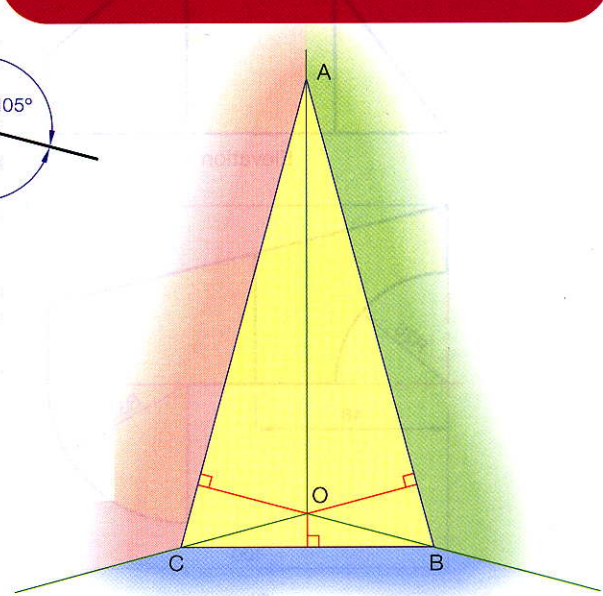
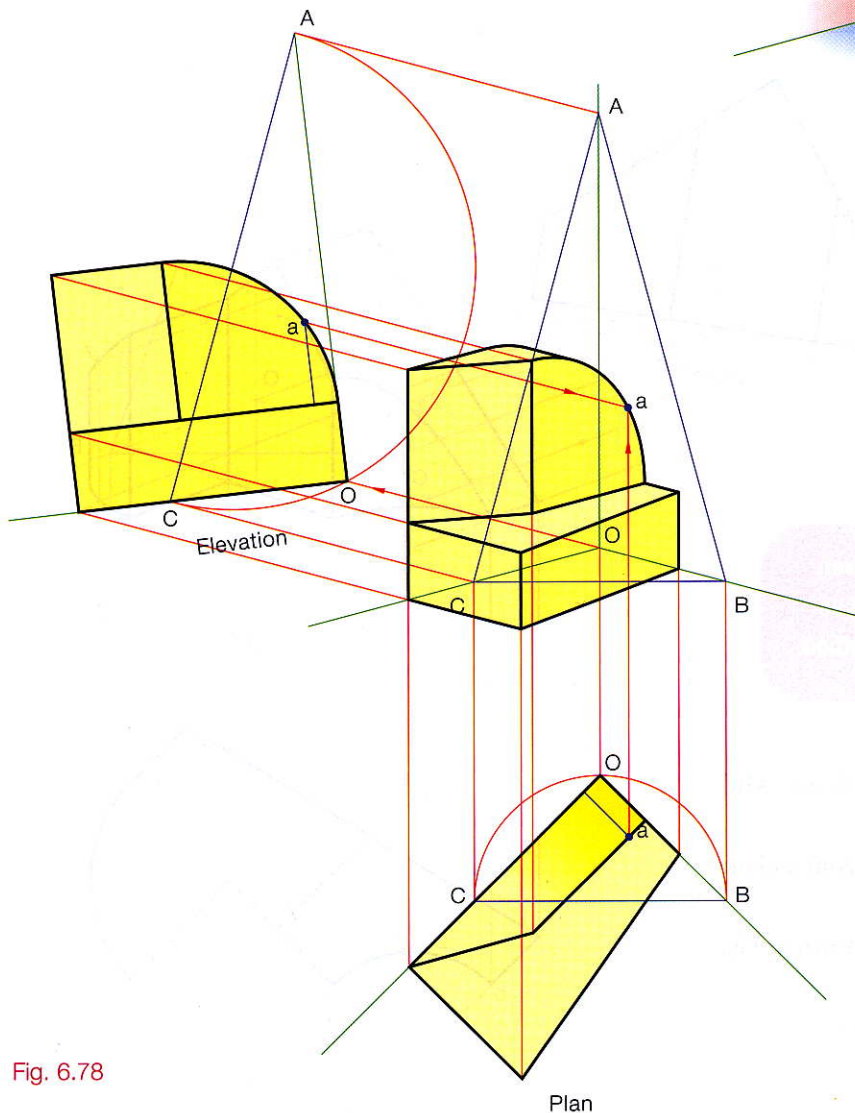

Fig. 6.77
Fig. 6.78
- (1) Set up the axes as shown in Fig. 6.77.
- (2) The axonometric plane is now drawn. The plane is drawn such that edge AB is perpendicular to axis CO, edge BC is perpendicular to axis AO and edge CA is perpendicular to axis BO. The size of the triangle does not matter.
- (3) Find the true shape of the triangular portion of the horizontal plane BOC in the same way as we did for isometric projection.
- (4) Similarly for the vertical plane, triangle COA.
- (5) Construct the orthographic views on these true shapes.
- (6) The dimetric view is found by projection from the elevation and plan as we have done for isometric.
- (7) The pictorial will be scaled automatically, Fig. 6.78.